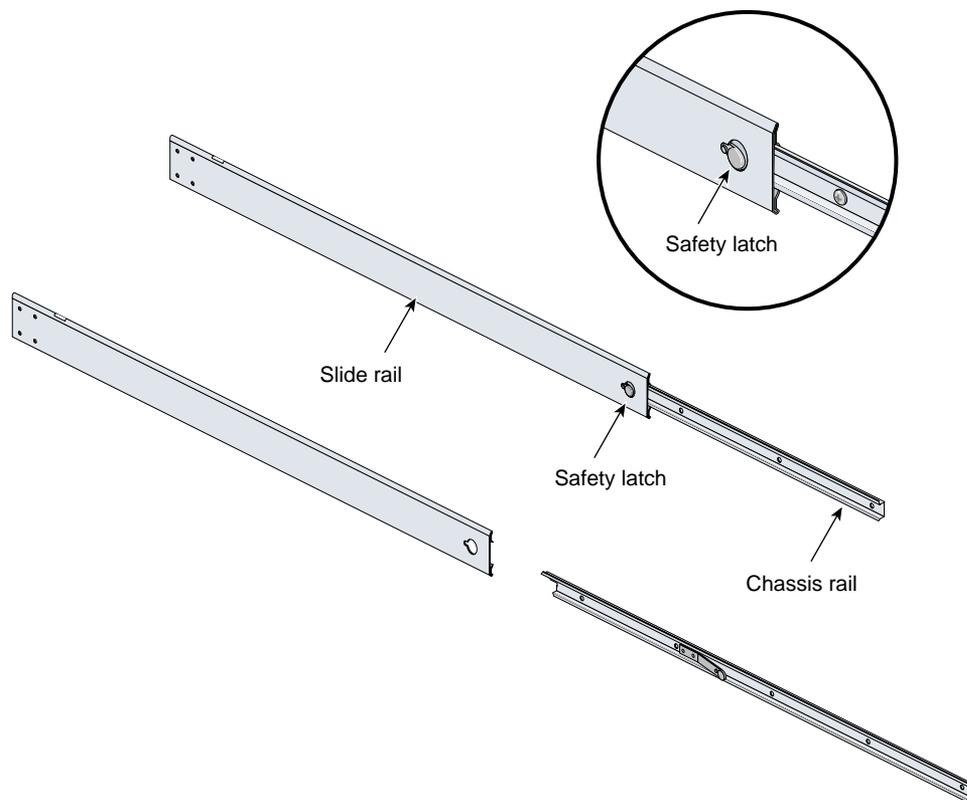

Figure C-1 Removing the Chassis Rail from the Slide Rail
3. Press the safety latch and remove the chassis rail from the slide rail, as shown in Figure C-1.